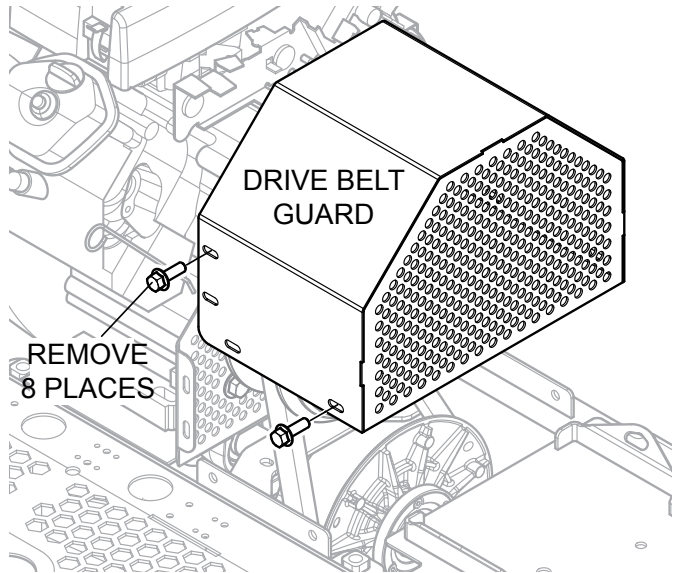

Figure 28. Drive Belt Guard Removal
To gain access to the drive belt, remove the drive belt guard cover (Figure 28), then visually inspect the drive belt for signs of damage or excessive wear. If the drive belt is worn or damaged, replace the drive belt.
1. To gain access to the drive belt, remove Drive Belt Guard (Figure 28).